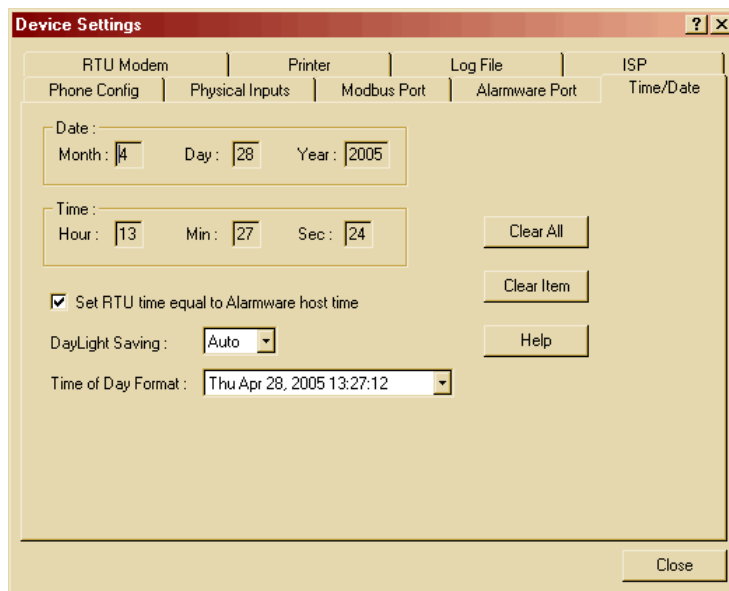

Figure 16: Device Settings, Time/Date
13. Select the **Time/Date** tab and configure it as shown in Figure 16 with the current time and date.